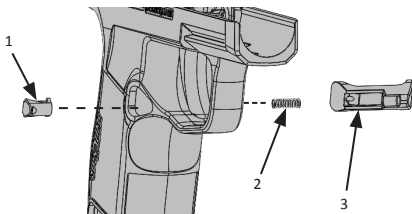

Figure 3
5. Remove the magazine catch stop (Figure 3, Item 1), magazine catch (Figure 3, Item 3) and the magazine catch spring (Figure 3, Item 2) from the grip module.